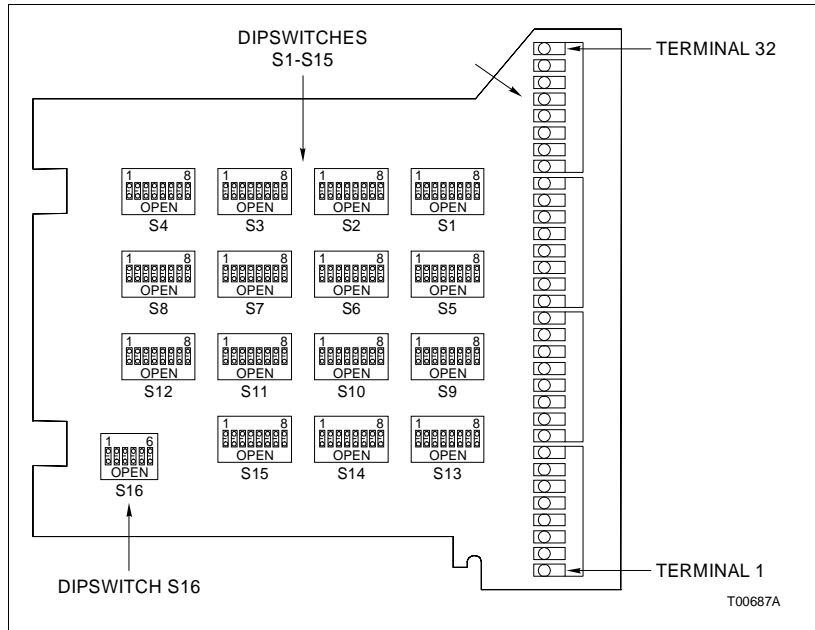

Figure 2-1. NIAI04 Termination Module
Set up the Termination Module (TM) to accept the analog field inputs sent to the slave module. Refer to Appendix A or Appendix B to find the setup for your application. Figure 2-1 shows the NIAIO4 Termination Unit.